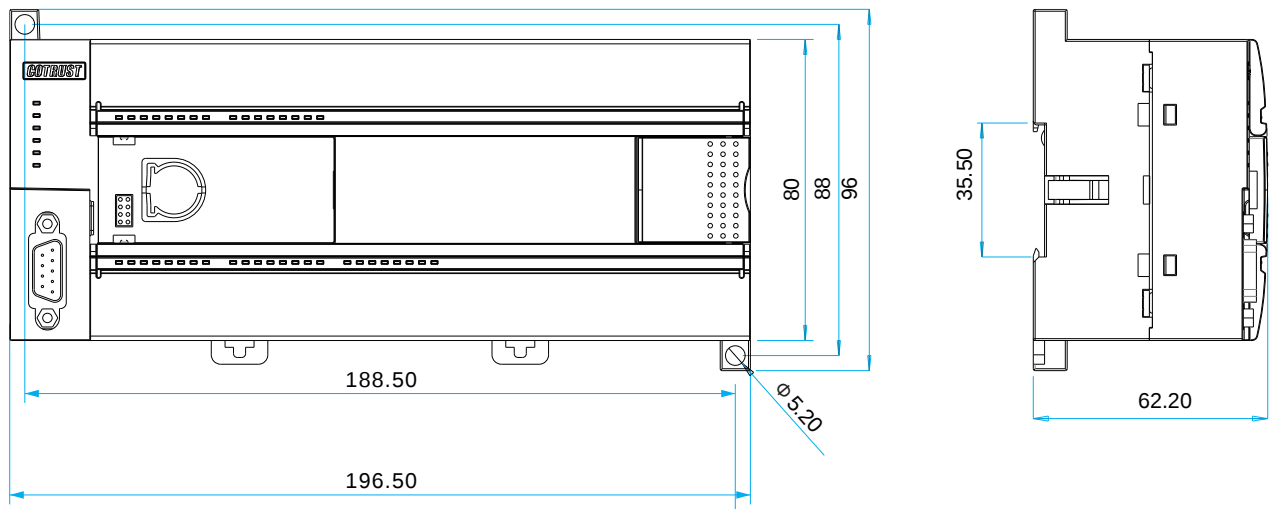

Fig3-2 CPU installation dimension diagram, unit: mm
- 1) Position and drill holes according to the size requirements in Figure 3-2.